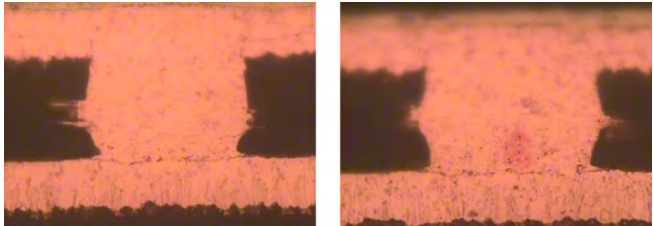

Figure 9: Solder float results.
Further, a solder float test was performed to evaluate thermal characteristics of the deposit in accordance with IPC TM-650 2.6.8. Solder shock (SS) conditions were 10 seconds float at 288°C for three times on the same side of the test coupon. Results are shown in Figure 9. After 3X SS testing, no cracks, or via bottom separation was observed.